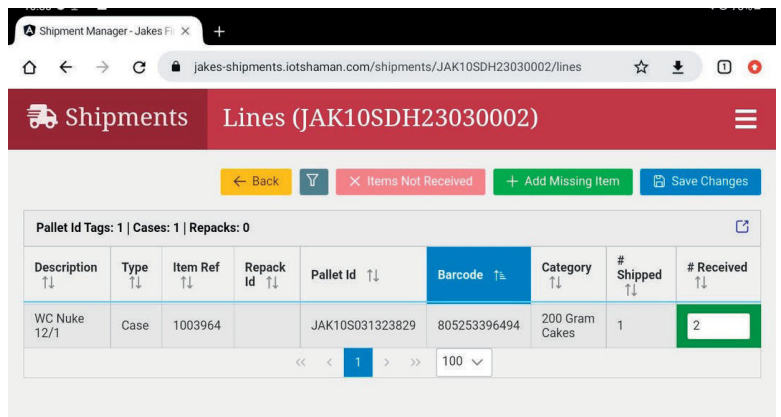

Figure 13
- 6. Once all changes have been made, click on SAVE CHANGES - All # Received quantities will now be highlighted in GREEN (Figure 13 & 14).